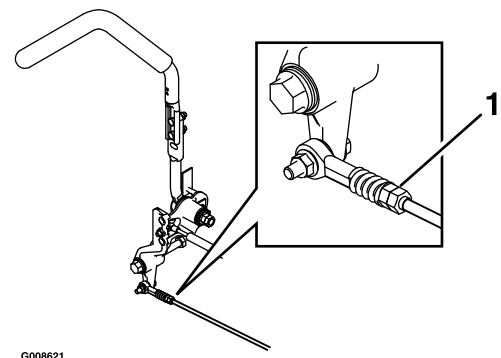

Figure 39
7. Bring the motion control levers into the neutral position. Adjust pump control rod lengths by rotating the double nuts on the rod in the appropriate direction until the wheels slightly creep in reverse (Figure 39). Move the motion control levers to the reverse position and while applying slight pressure to the lever allow the reverse indicator springs to bring the levers back to neutral. The wheels must stop turning or slightly creep in reverse.